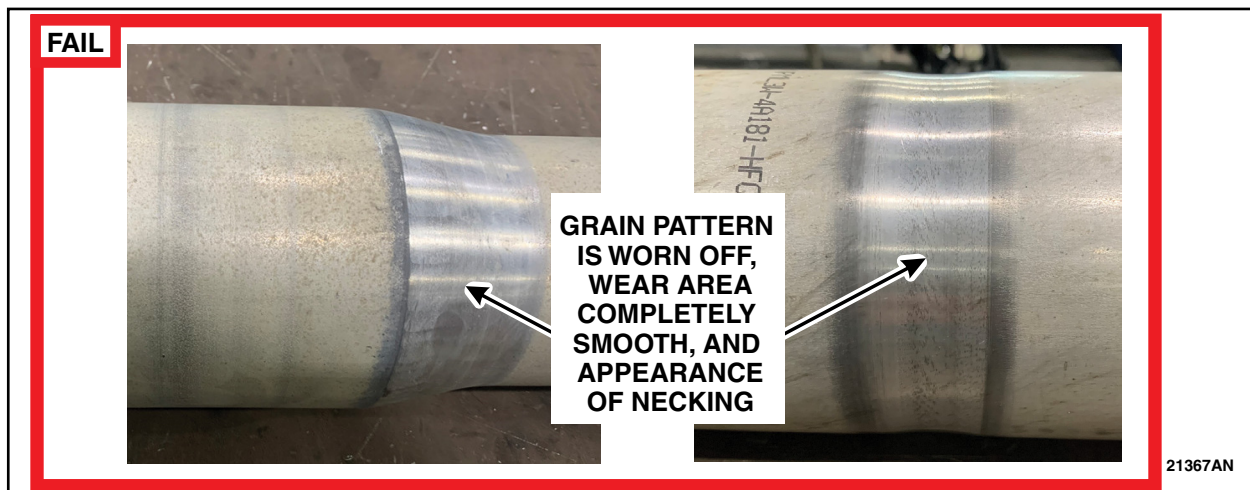

FIGURE 7
6. Inspect the marks found on Zone 2. Is the aluminum tube surface grain pattern worn off, completely smooth, or have an appearance of necking? See Figures 7 through 10.